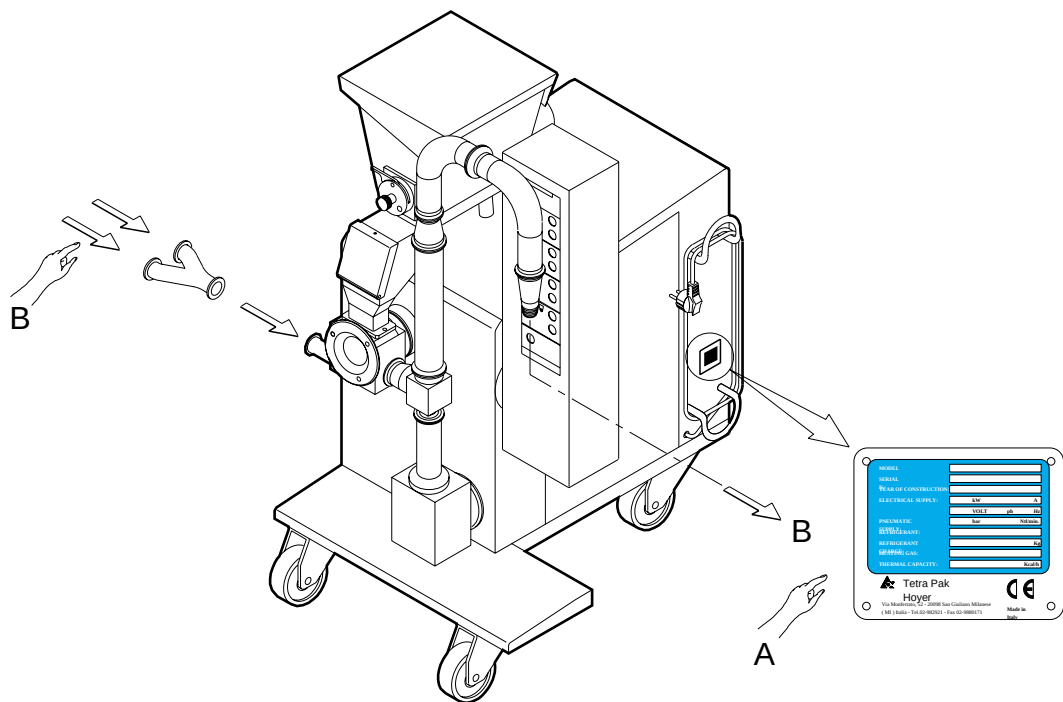

Fig.4.4
- a. Position the machine at the place of production and check the nameplate data to ensure that the machine is compatible with the electrical power supply (A, Fig.4.4).
- b. Connect the ice-cream inlet and outlet pipes to the pump body (B, Fig.4.4).